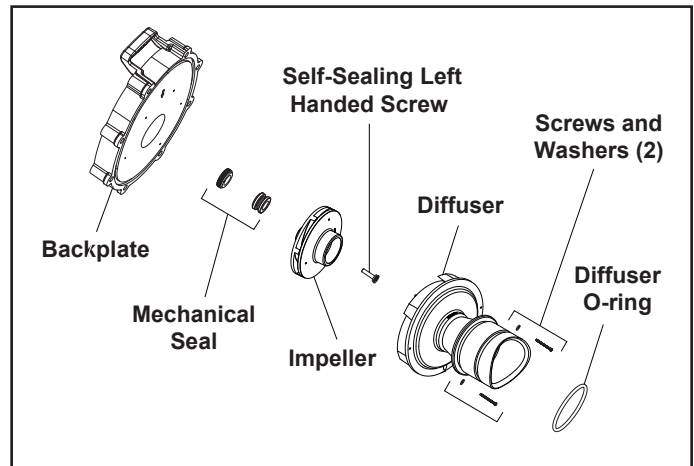

Figure 9. Backplate, Impeller, Diffuser, and Mechanical Seal Exploded View
**NOTE** Refer to Figure 9 for the location of the mechanical seal and impeller.